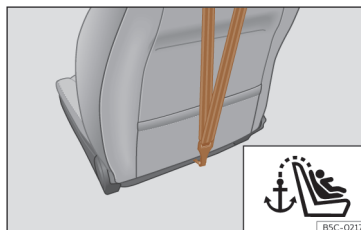
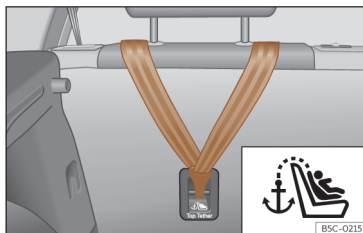

Fig. 41 Rear of front passenger seat backrest: Top Tether belt anchor (not available in all markets/versions).
Fig. 40 Rear part of the rear seats: Top Tether belt anchor.
Child seats with a Top Tether system are fitted with an additional belt for fastening to an anchor point in the vehicle. This anchor point is located on the rear of the rear seat backrest and of the front passenger seat backrest¹⁾ (identified with the symbol ) and provides better retention >>> **Fig. 40**, >>> **Fig. 41**.
- Slide the belt and secure it properly with the anchor on the rear seat backrest >>> **Fig. 40**, >>> **Fig. 41.**